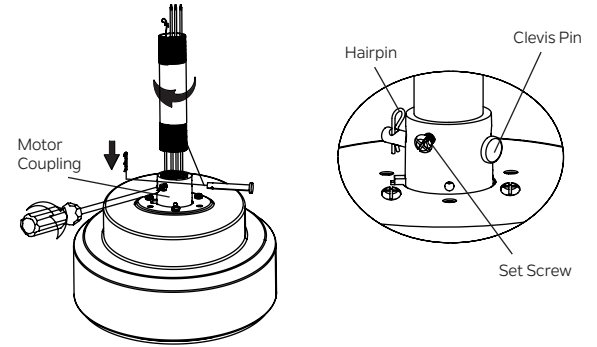

Fig. 8
Step 4. Carefully feed fan wires and safety cable up through the downrod. Thread the downrod onto the motor coupling until the clevis pin holes are aligned. Next, replace the clevis pin and hairpin, then tighten both set screws. (Fig. 8)